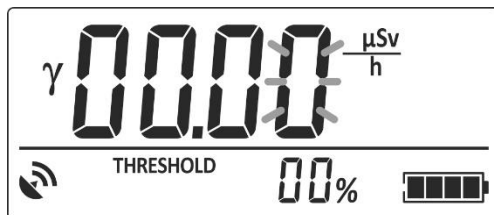

Figure 2.13 – LCD of the dosimeter
2.3.6.5.3.2 If you keep holding THRESHOLD for more than 4 s, the value of the alarm threshold level is returned to zero, and its low-order digit starts blinking (Figure 2.13). Then release THRESHOLD.